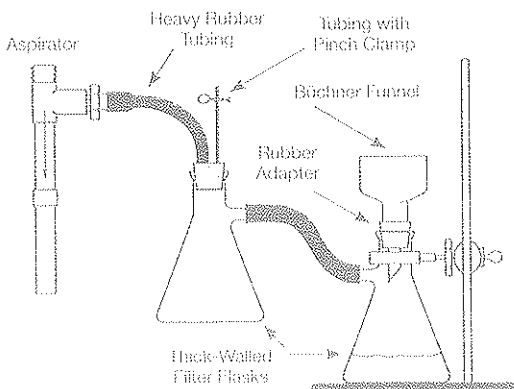

Figure 1. How to Set Up a Vacuum Filtration
5. Set up a vacuum filtration apparatus as shown in Figure 1. The second filter flask is used to prevent back-up of water from the aspirator to the filter flask when the vacuum is released.